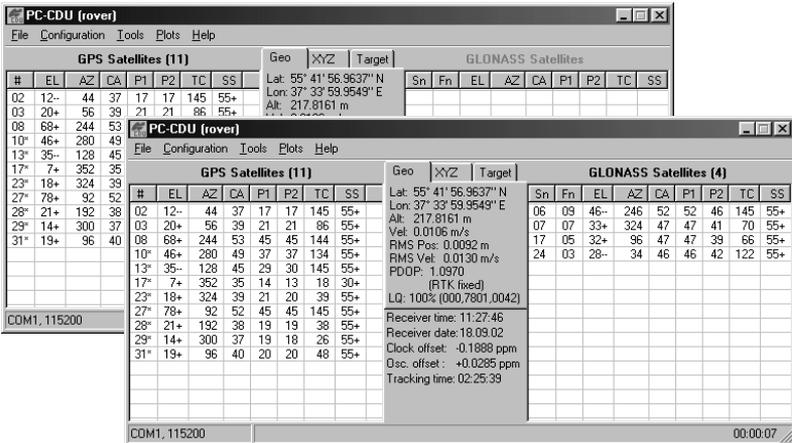

Figure 3-19. PC-CDU Main Screen for GPS and GPS/GLONASS Options
9. On the main screen (Figure 3-19), check the LQ field to ensure the receiver obtains differential corrections. Usually, the receiver will start to output the coordinates of the antenna's phase center along with the solution type within 10–30 seconds.